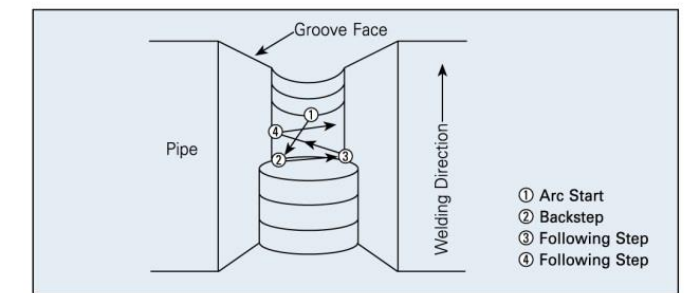

Fig. 7: The Backstep Technique in Vertical-Up Position Welding of Pipes
- Use the backstep technique at arc starting to prevent the occurrence of porosity at the starting area of the weld bead as illustrated in Fig. 7. This figure shows the backstep technique in the vertical-up position when welding a horizontally fixed pipe. This is a common practice for all low hydrogen electrodes.